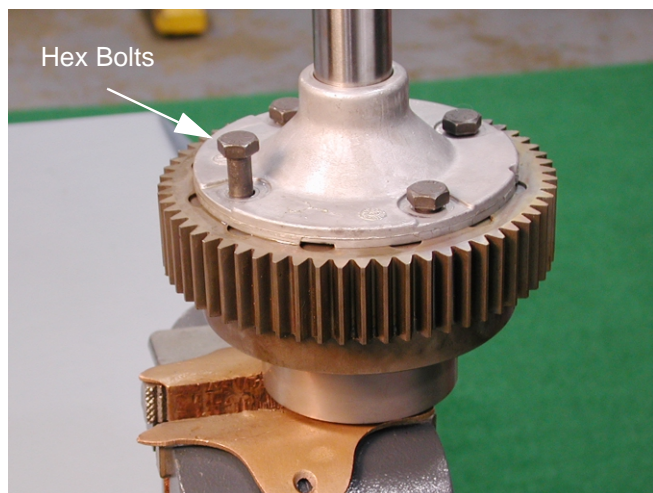

Figure 26
35. Place the differential assembly in a the vice (vertically) with the hex bolts facing up. See Figure 26.